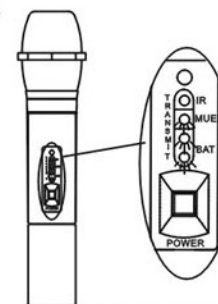

FIGURE 20
2. If it need to adjust code(adjust channel), enter the adjusting code mood. After 20 seconds approximately, the IR green light black out, exit the adjusting code. The MUE BAT light , indicate entering mute. If needn't adjusting code, short press(1 second) POWER button enter normal operation (Figure 20).